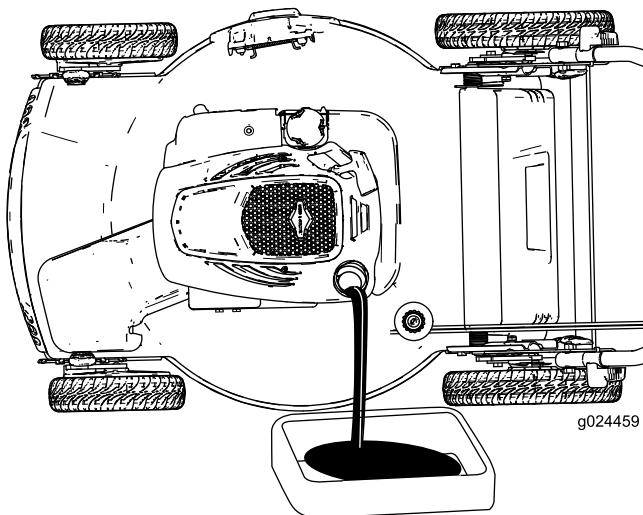
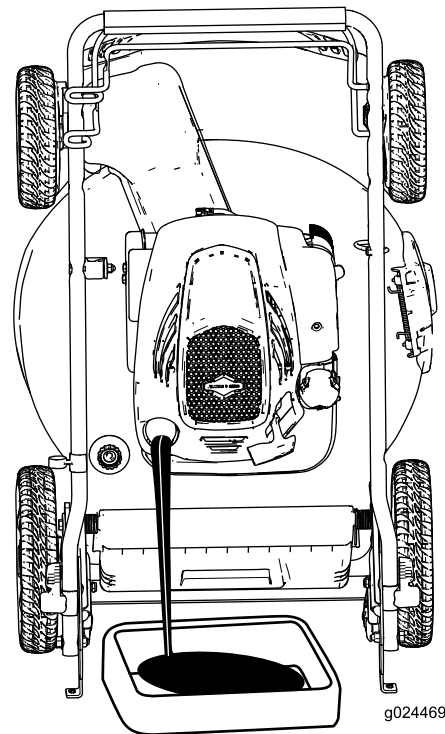

Figure 22
Figure 23
4. Tip the machine onto its side with the dipstick down (Figure 22) or set the machine in the vertical-stow position (Figure 23; refer to Storing the Machine in the Vertical-stow Position (page 11)) to drain the used oil out through the oil-fill tube.